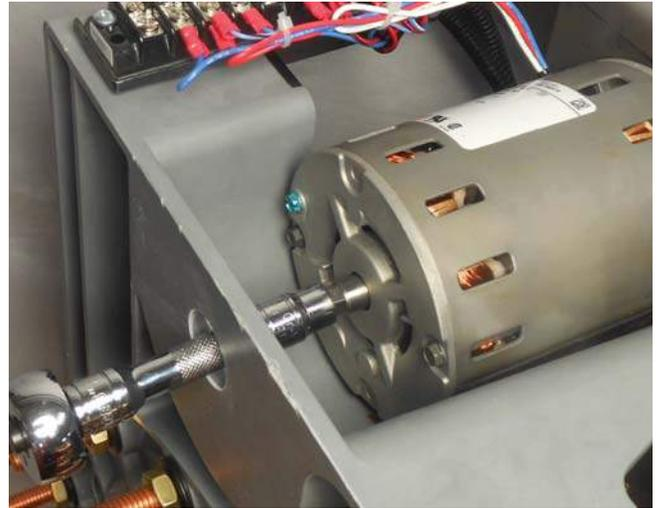

**Figure 97. VL reversing stationary hardware**
8. Place a new Belleville washer and nut on each stud. The cupped side of the Belleville washer must face in toward the contact board. Use a 3/4" socket and ratchet to tighten the nuts on each contact stud. Using a torque wrench tighten the nuts to a torque of 180–192 in-lbs (20.3–21.7 Nm). See Figure 97.